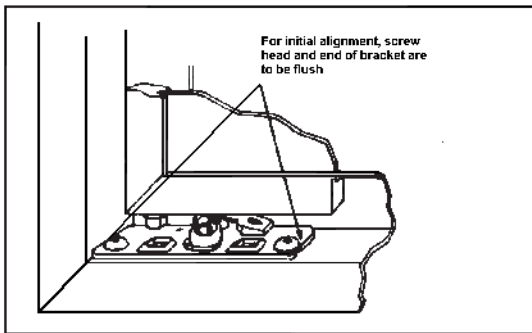

Figure 12
- For proper alignment of the bottom mounting plates of the Mullions, both ends of the plate should be flush with both mounting plate screws. Refer to Figure 12 .